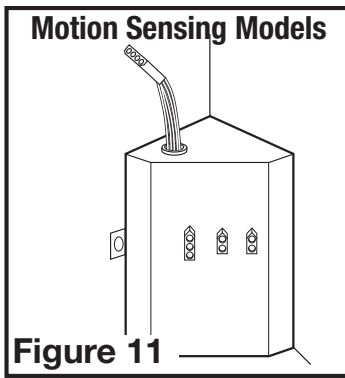

**Figure 10**
- 3a. **STANDARD MODELS:** Plug the fan's 2 pin and 3 pin quick connect motor cords into the corresponding receptacle located on the wire compartment cover. These cords will only fit one way into the receptacles (**Figure 10**).
- 3b. **HUMIDITY SENSING MODELS:** Plug the fan's 2 pin and 3 pin quick connect motor cords into the corresponding receptacle located on the wire compartment cover. Connect the two pin connector from the humidistat compartment to the two pin connector from the side of the wire compartment cover. These cords will only fit one way into the receptacles (**Figure 10**).